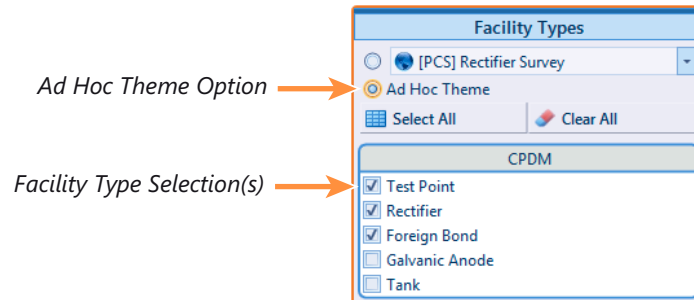

Figure 7-9. Ad Hoc Theme Option
- b To select multiple facility types, click the option button **Ad Hoc Theme** and then click the check box for one or more facility types, such as *Test Point*, *Rectifier*, and *Foreign Bond* (Figure 7-9, page 291).